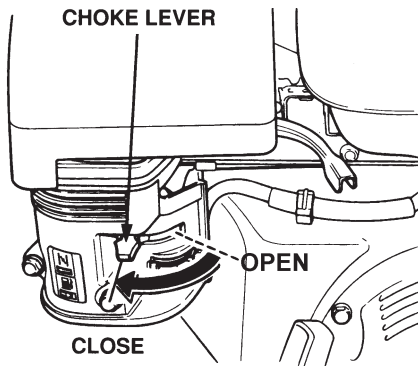

Figure 20. Choke Lever
- Place the **Choke Lever** (Figure 20) in the "**CLOSED**" position.
7. If the engine has started, slowly return the choke lever (Figure 20) to the **"OPEN"** position. If the engine has not started repeat steps 1 through 5.